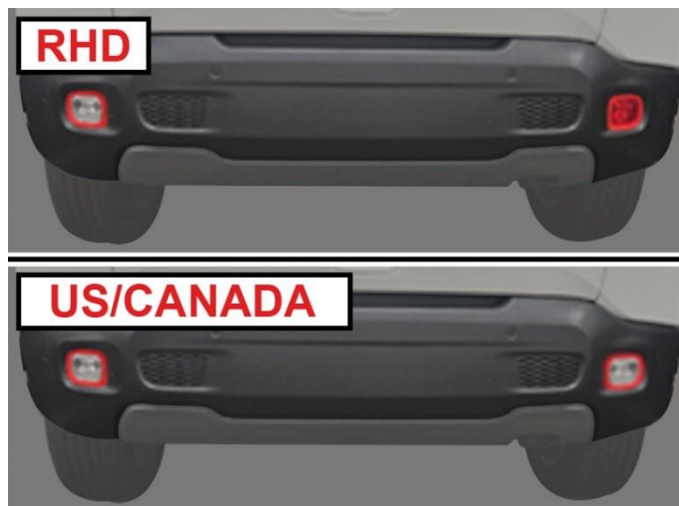

Figure 1 – Lamp Configuration Inspection
1. Depending on the configuration and market, check the layout of the rear lamps as shown (Figure 1).
- If the rear lamps layout is different from those shown in (Figure 1), the vehicle is NOT Compliant. Proceed to **Section B. Lamp Replacement**.
- If the rear lamps layout is the same of those shown in (Figure 1), the vehicle is Compliant. Return vehicle to customer or inventory.
IMPORTANT: Replace one or both rear bumper lamps as needed for regulatory compliance (Figure 1).